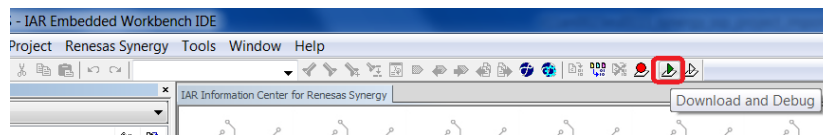

Figure 1.15 Debugger Setup 2
3. Press the **CTRL+D** or **Download and Debug** button as shown in Figure 1.15, to start debugging.